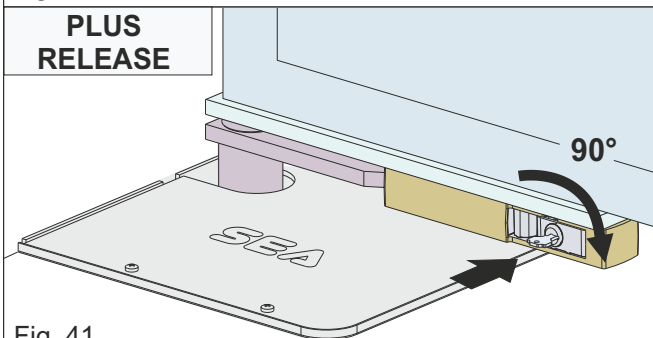

Fig. 41
- insert the supplied key into the lock and turn it 90 ° clockwise (Fig. 41)